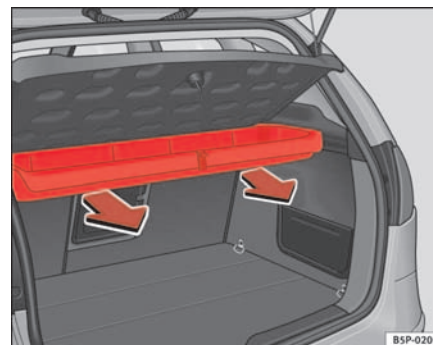

Fig. 121 Removing storage shelf
- Pull outwards until the compartment is freed from the pivot point. ⇒ fig. 121